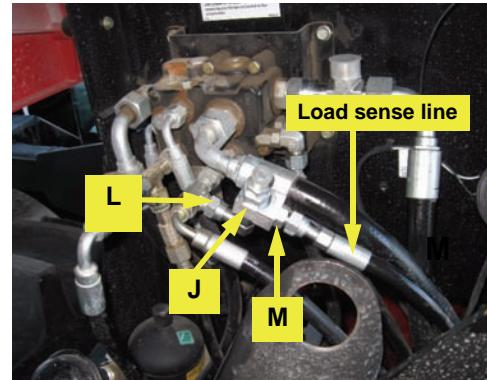

Figure 4d: Installed load sense shuttle
- d. Connect the female elbow fitting **L** of the load sense shuttle **J** to the open stem of the load sense run-tee (Figure 4d).
e. Reconnect the load sense line to load sense shuttle fitting **M** (Figure 4d).